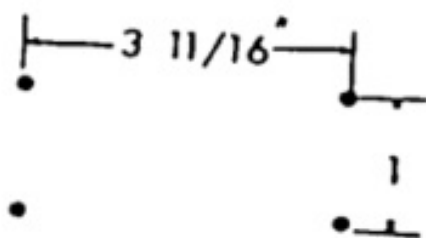
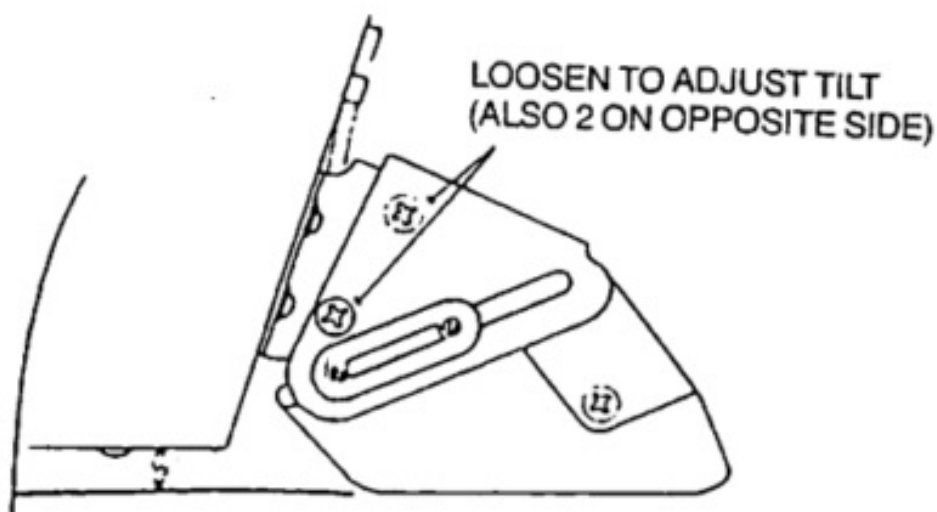
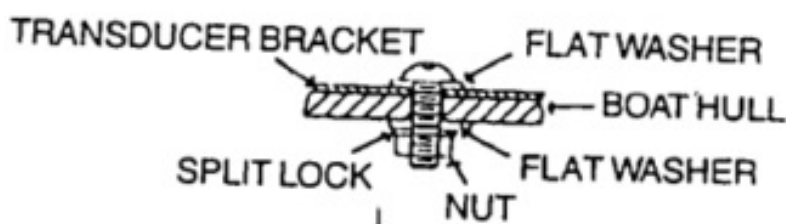

FIGURE 5
FIGURE 6
FIGURE 7
Once the mounting location has been determined locate and drill four holes (see Figure 5) so that face of the transducer will be 1/2" below the surface of the boat (see Figure 6).
For mounting to the aluminum hull, holes should be 7/32", using supplied hardware as shown in Figure 7 for mounting. It is important that a silicone sealant be applied in the holes and under the flat washers to prevent leaking. For mounting to fiberglass hull, drill 9/64" holes, using brass or stainless steel wood screws (not supplied) for mounting. Before tightening hardware, adjust the transducer so the face is parallel with the bottom of the boat. This adjustment is accomplished by loosening the four large screws shown in Figure 6 and then tilting the transducer. After adjusting, securely tighten these four screws.
Now adjust the transducer up or down so that the face is 1/2" below the bottom of the boat (See Figure 6). **IMPORTANT:** Do not allow any part of the metal bracket to be below the surface of the boat since this could cause damage to the transducer or boat if hit. After adjusting, securely tighten the hardware. **IMPORTANT:** For aluminum, the hull observes the sealing procedure previously discussed. Its high-speed operation cannot be obtained with the transducer mounted as specified above, the following changes should be made in the order listed.
2. If Step 1 does not produce the desired results, loosen the four screws that mount the transducer to the transom and move the transducer down to where the bottom of the metal bracket is even with the bottom of the boat (see Figure 6).